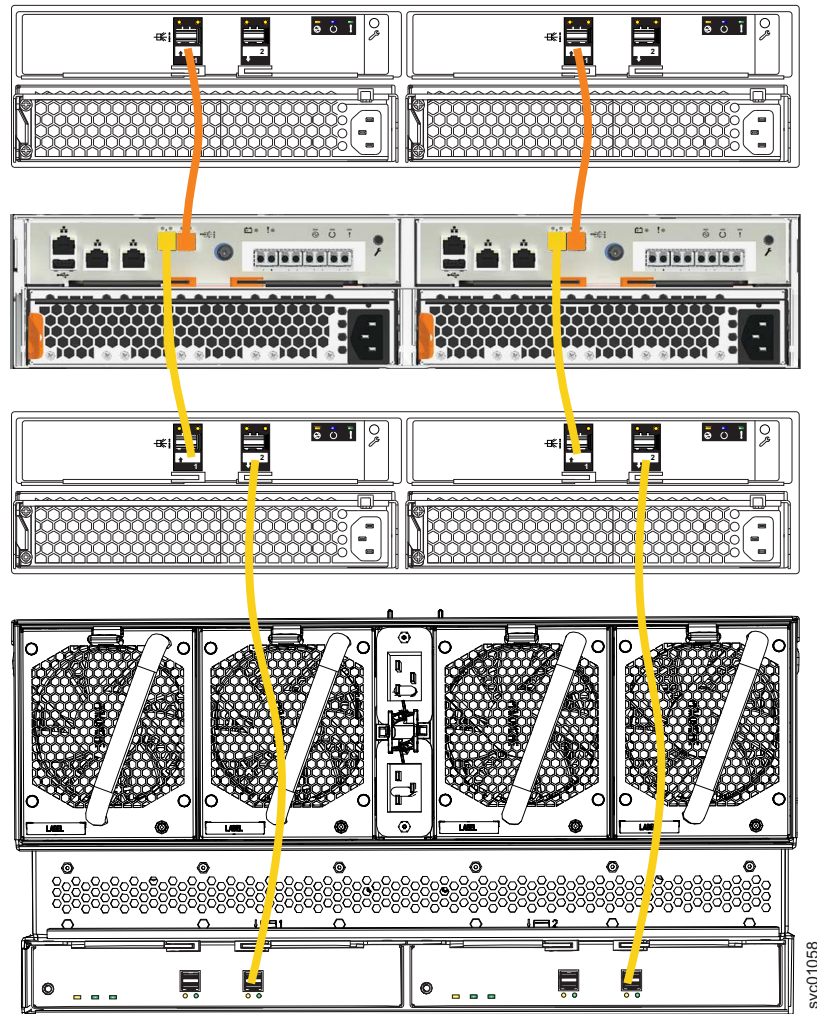

Figure 113. Connecting the SAS cables
1. Install the cables, as shown in Figure 113 on page 131.
Note: Figure 113 on page 131 shows the cable connections between the SAS enclosures and the Storwize V5030 control enclosure. It does not imply or represent the precise racking order for the enclosures in a rack. However, due to its size and weight, always place the 2077-92F enclosure near the bottom of the rack.
As Figure 113 shows, you can combine 2145-24F, 2145-12F, and 2077-92F enclosures in a SAS chain. The limiting factor is the combined *chain weight* of the various components. The maximum SAS chain weight that can be attached to a node SAS port is 10: